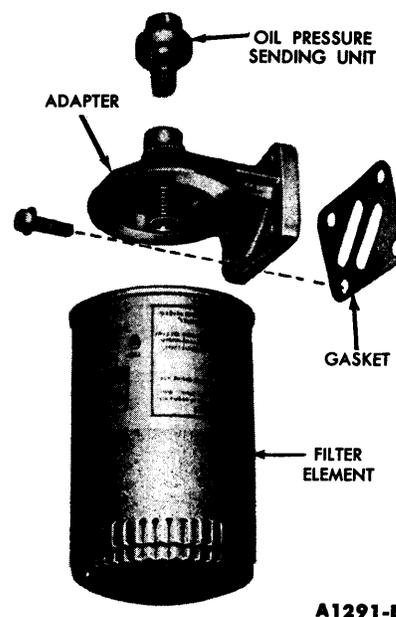

FIG. 88—Oil Filter Assembly
61. The oil filter assembly is shown in Fig. 88. Clean the oil filter adapter gasket surfaces.